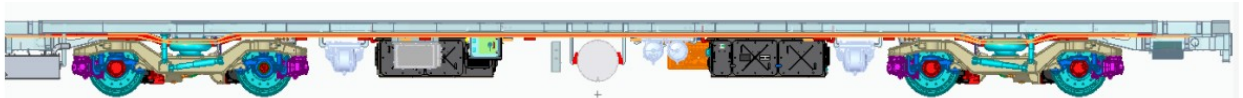

FIG. : 1
- Mounting location of Brake Chopper Resistor to MC under-frame shell is as shown in Fig. : 1 and 2. And also refer the drawing.no C-A675UV2-132038 for more details.